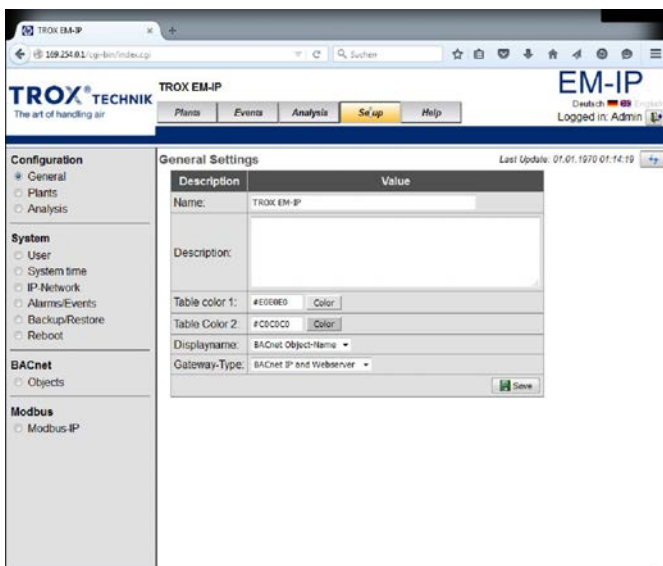

Fig. 19: General settings
- ⇒ The 'General settings' (Fig. 19) page is displayed.